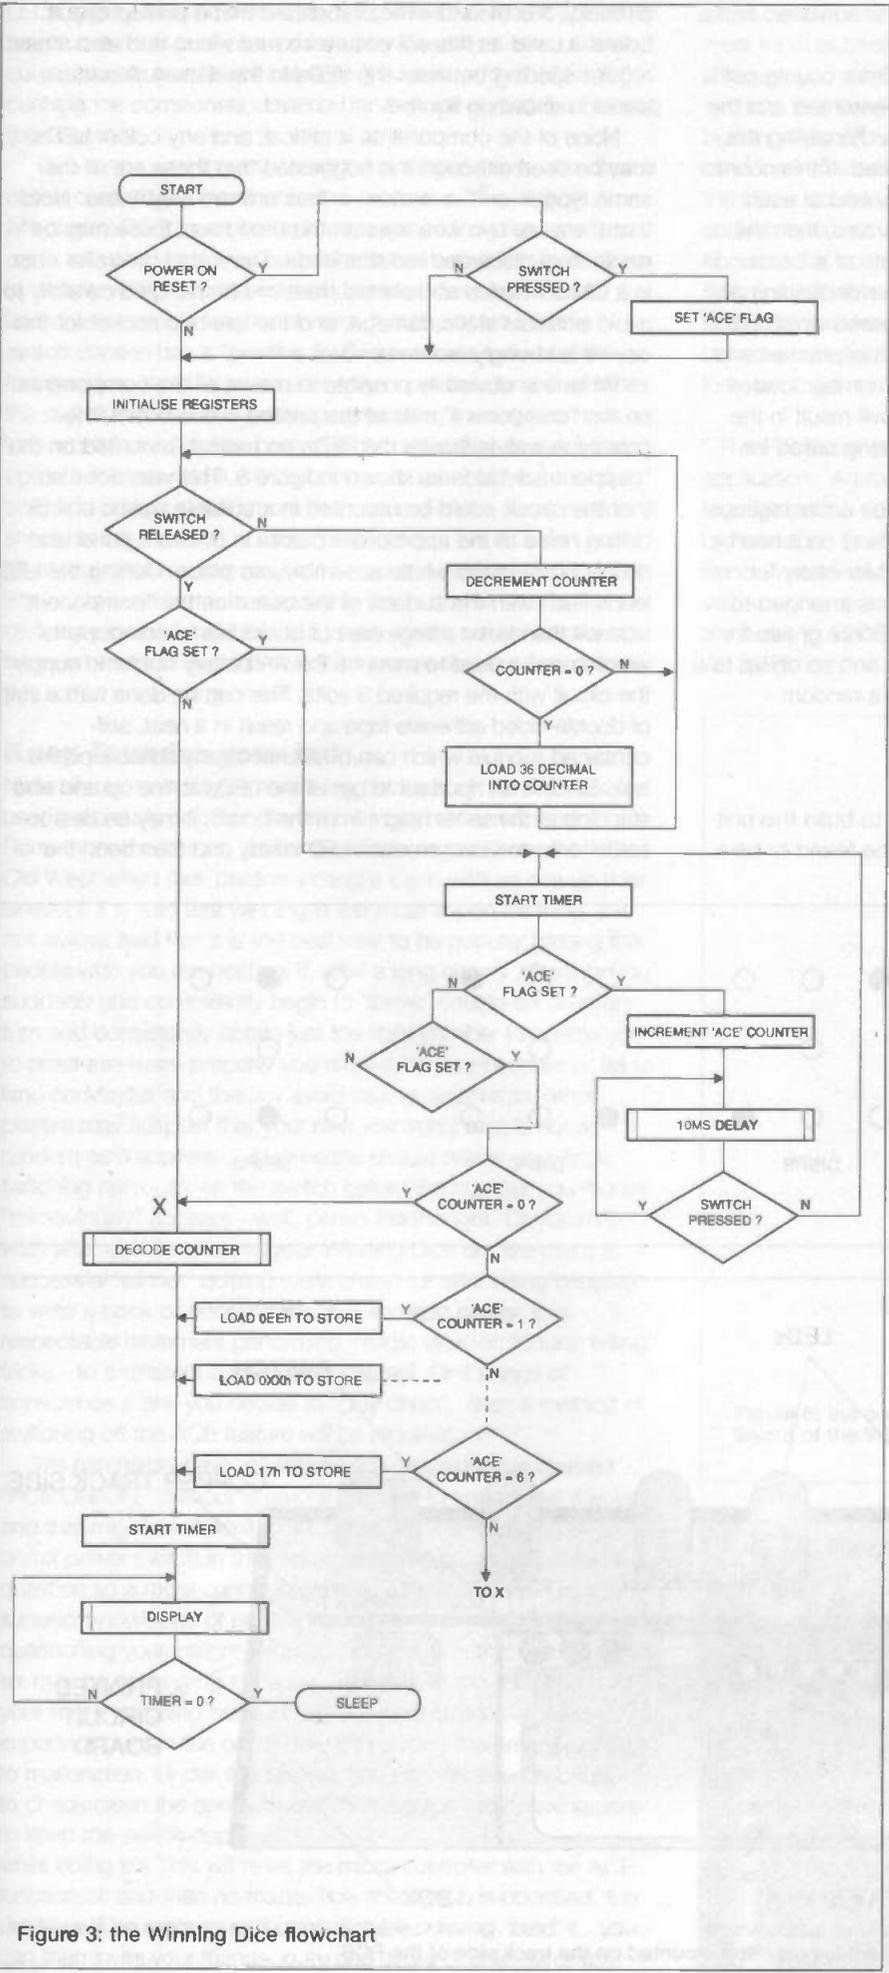
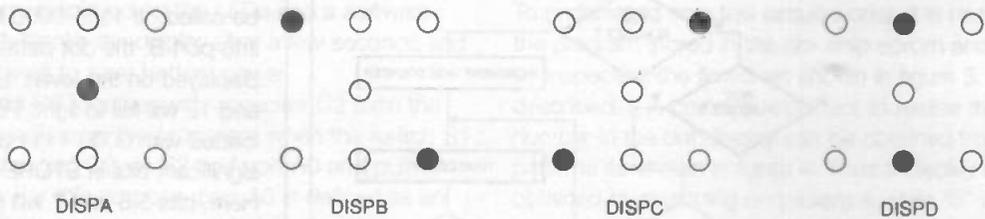

Figure 3: the Winning Dice flowchart
Figure 4: four basic dot patterns
To understand how this circuit works, it is necessary to look at the program stored in the on-chip eeprom and this is best seen by inspecting the flowchart shown in figure 3. Before this is described, it is perhaps important to realise that every possible number in the dot display can be obtained from four basic dot patterns as shown in figure 4. Thus a display of "1" would be obtained by switching on pattern A while "5" would result from patterns A, B and C being selected. A score of "6" would require patterns B, C and D. The display routines to show these patterns are in fact labelled DISPA, DISPB, DISPC and DISPD and when called energise their respective LEDs in sequence. Calling DISPA will only switch on LED 7 or 8 while calling, say, DISPB would light LED 1 for a short time and then LED 13 or LED 2 and 14. Thus calling the subroutine DISPA followed by subroutine DISPB would result in the appropriate dot pattern for the number 3. Unlike the usual display driving routines encountered in micro-computer programmes however, these routines do not define which particular output lines are to go high and which are to go low but rather their i/o status (ie which are to be outputs and which inputs). Thus, by making B0-B3 low and B4-B7 high before calling these routines, only the 'odd' LEDs (left hand side display in figure 3) will be able to light while loading binary 0000 1111 into port B will enable the 'even' LEDs.
Returning to figure 3, when the switch is closed, the processor is reset and any required registers are initialised. The processor also determines if the reset was due to a power on reset or a wake up from SLEEP condition by reading the appropriate bit (PD) in the STATUS register. If the former, it reads the switch status setting the 'ACE flag as required which will determine if this function is to be enabled or not. The switch is then sampled (A) and as long as it remains closed (ie not released), a counter is decremented. The count continues